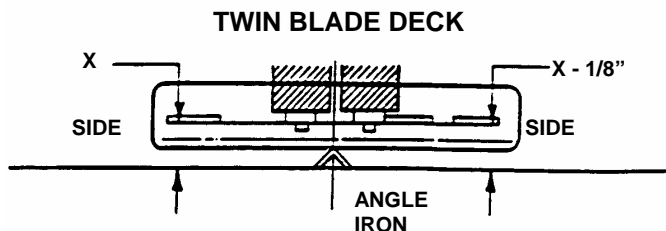

FIGURE 4.6
- e. Measure the distance from blade tips to floor. If the measurement is within $1/8"$ from side-to-side, the deck levelness is satisfactory. If the difference from side-to-side is greater than $1/8"$, continue to the Step "f" for adjustment. See Figure 4.6.